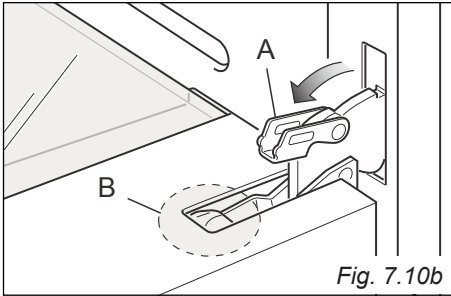
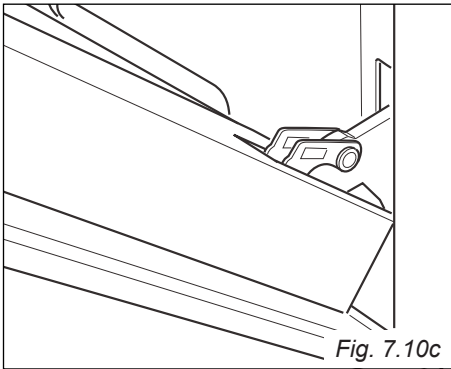

Fig. 7.10b
Fig. 7.10c
- Open the lever "A" completely on the left and right hinges (fig. 7.10b).
- Gently close the door (fig. 7.10c) until left and right hinge levers "A" are hooked to part "B" of the door (fig. 7.10b).
1. Make sure the door is locked open (see fig. 7.10c).